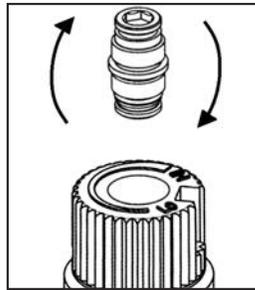

Figure 17: Flip Valve Screw
- c) Flip the screw around and reinsert with the red o-ring seal facing outward (see Figure 17).